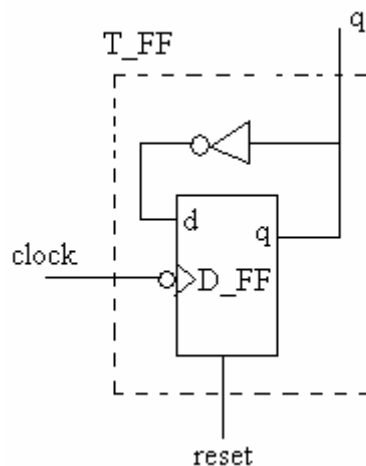

Fig. 2.2 Schematic of a T Flip-Flop
3. Create third module called “*T_FF*” according to Fig. 2.2. You should using “*D_FF*” as the building block.